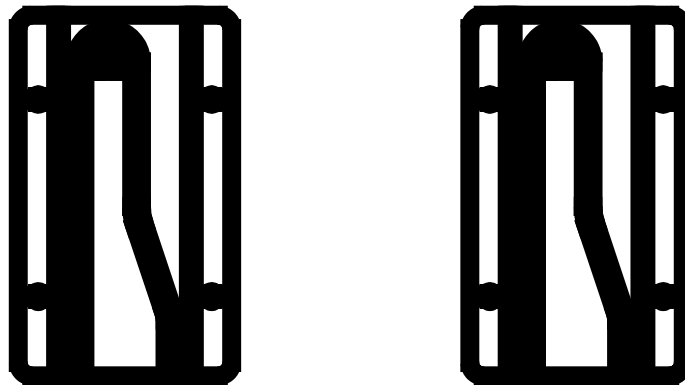

Fig.2
- b) Installation of supporting seat, as shown in Fig.2.